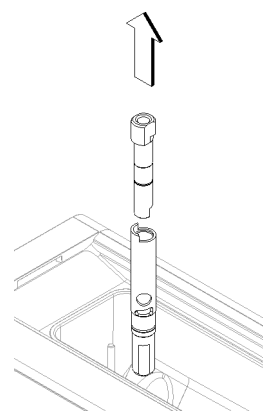

figure 20
and (see figure 20).
- 3 Reassemble the tap assembly in the reverse order to that illustrated in Figure 20 and reposition it in its seat.